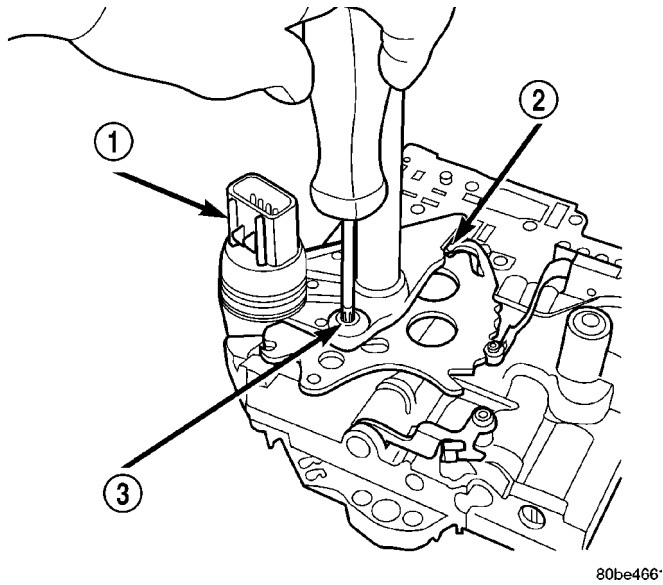

Fig. 370 Install Transmission Range Sensor Retaining Screw
(15) Make sure Manual Valve control pin is contained within the rooster comb slot (Fig. 370). Install Transmission Range Sensor retaining screw (Fig. 370) and torque to 5 N·m (45 in. lbs.).